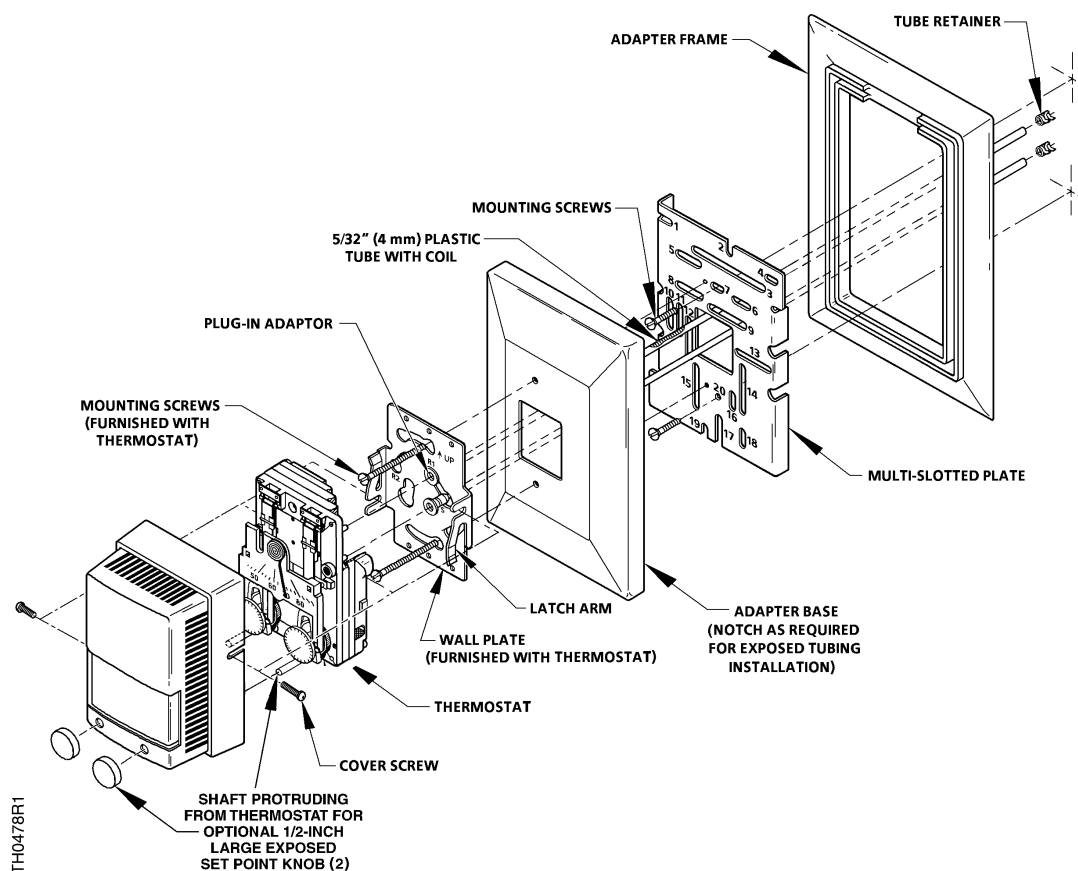

Figure 1. Typical Thermostat Installation.
Figure 1 shows a typical thermostat installation.
1. Complete the required air line connections as necessary. Secure all connections and install the plug-in adapters into the 5/32-inch (4 mm) plastic tube. Use the blue adapter for the supply air line. See *Figure 1*.
NOTE: For applications that use the 1/2-inch large set point adjustment knob, align the key hole in the cover over the shaft protruding from the thermostat when mounting the cover (see *Figure 1*).